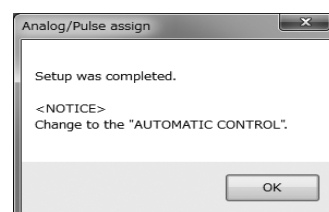

Fig.39
- ⑤ Click "OK" to change the settings to the inputted values, and then click the "OK" button in the displayed message box (Fig. 39) to complete the setting process.